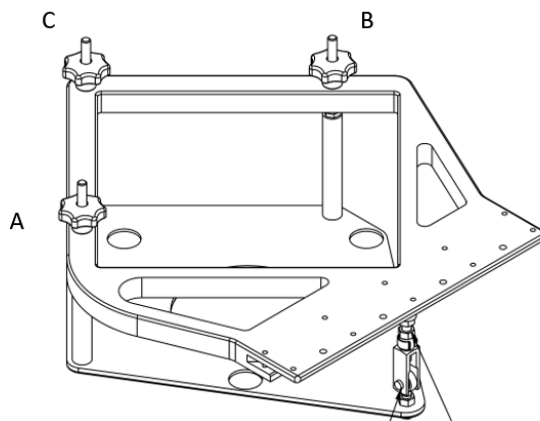

Figure 1-5. Adjustment Knobs
- b. Before leveling, move all three knobs to the top (see Figure 1-5).